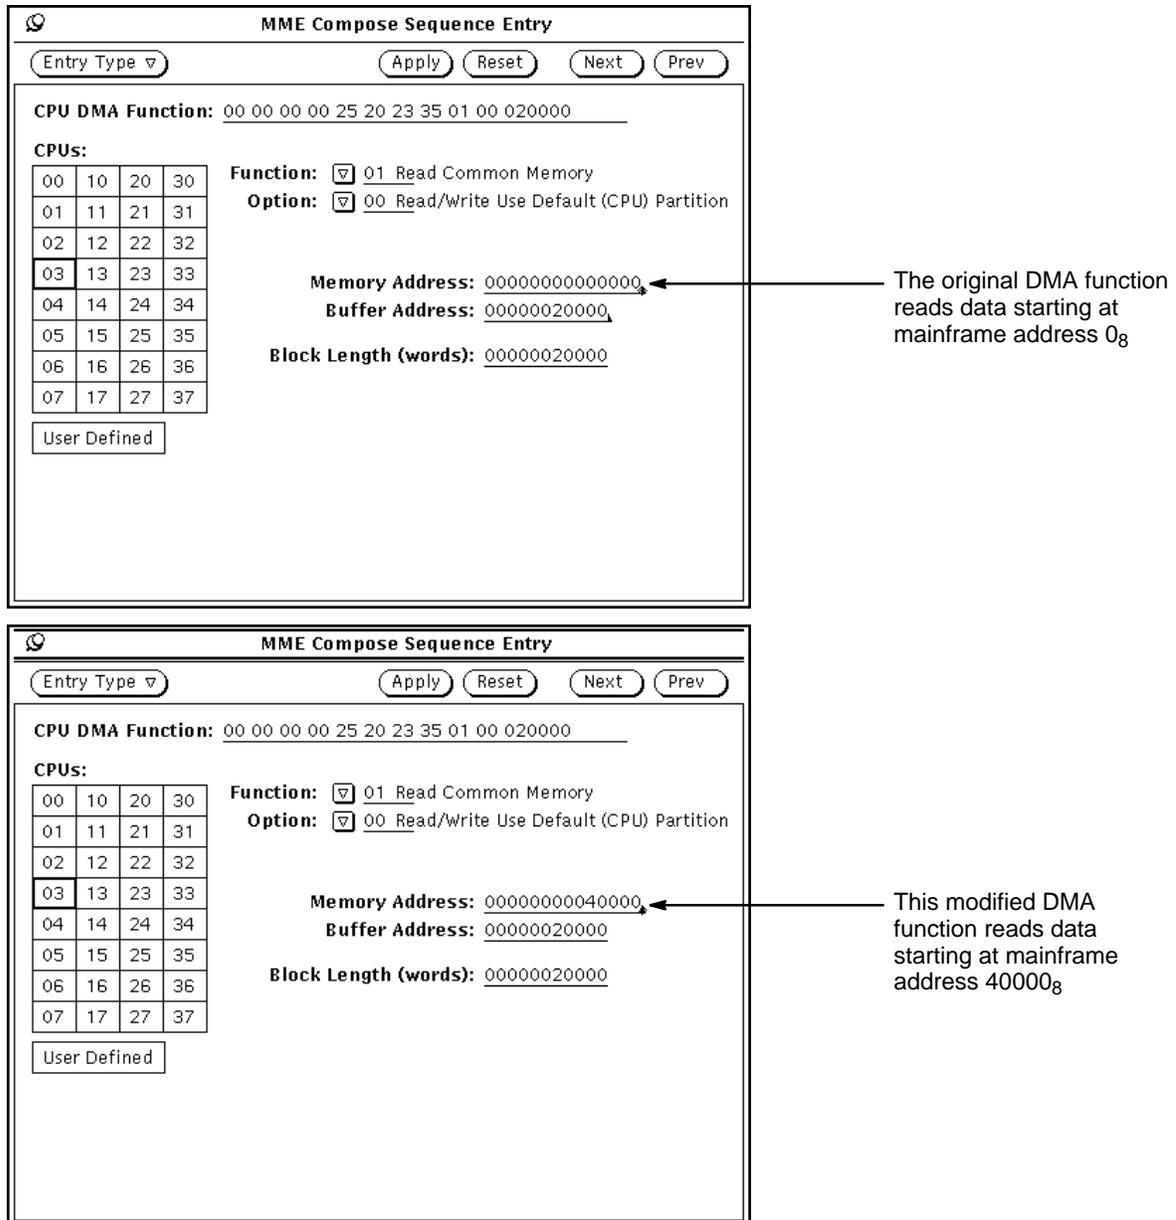

Figure 7. Modifying Where the DMA Function Reads the Data
7. Change where the DMA function starts reading data by changing the value stored in the Memory Address field. For example, Figure 7 shows how to change the read address from 0_8 to 40000_8 .